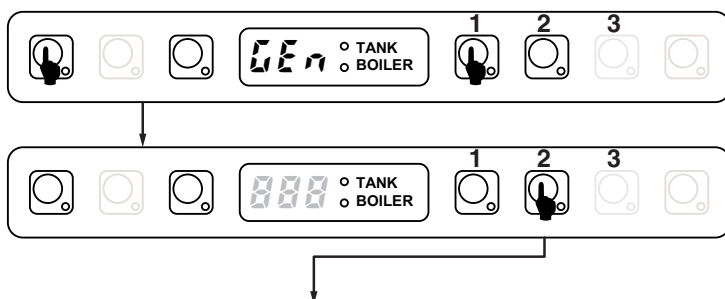

Fig. 9 Enter into User Mode (press for 5 sec).
- Enter into the USER SETTING mode by pressing and hold down ON/OFF and BUTTON_1 keys for at least **five seconds** the display shows **GEN** (Figure 9);